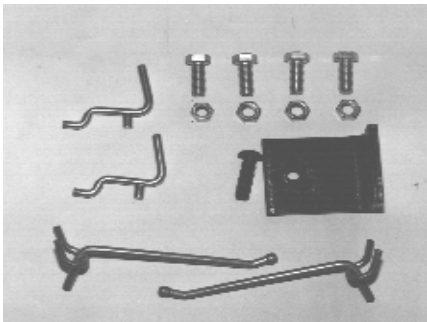

Figure 6
2. Mounting hardware, nuts, bolts, accessory hooks, etc. are supplied with the bench. **See Figure 6.**